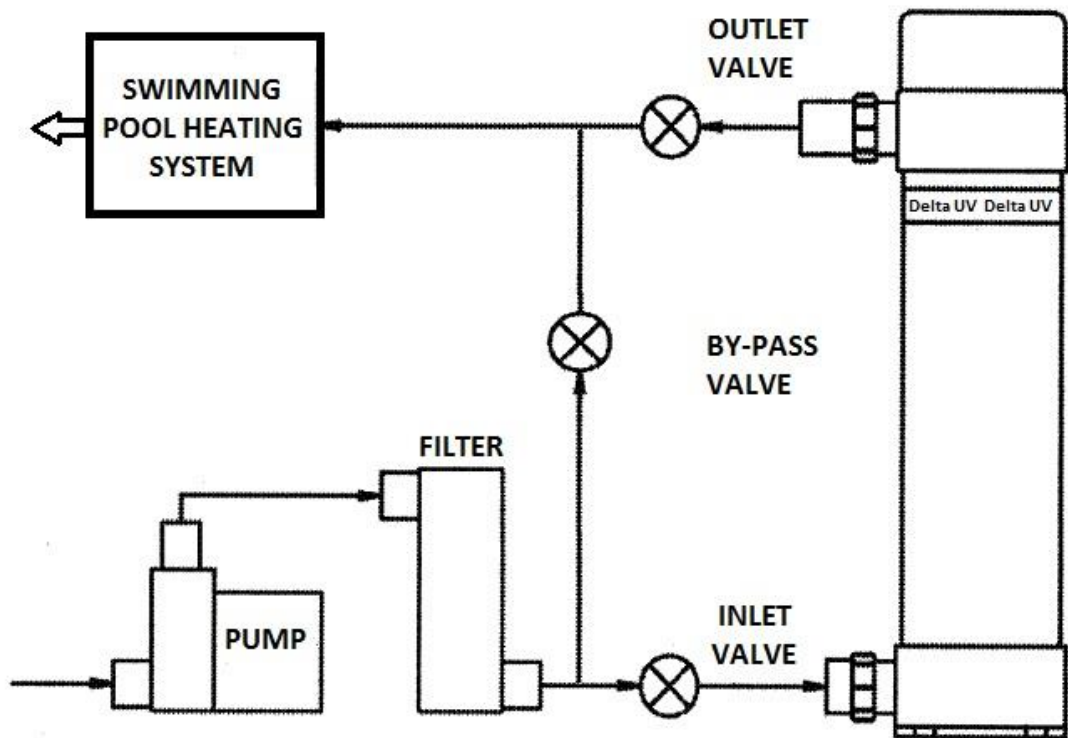

FIG. 1
**Plumbing the UV Unit:** Your DELTA UV unit will need to be plumbed into your pond or swimming pool circulation system. The diagram (Fig. 1) shows how the unit is to be plumbed. Note that the water is to be piped from the pressure side of the pump and after the filter, in and out of the DELTA UV unit. The inlet for the water is at the bottom of the DELTA UV unit, and the outlet is at the top of the DELTA UV unit. If your pump exceeds the maximum flow rate of the DELTA UV unit, installation of a plumbing by-pass will be necessary to bypass some of the pump's flow around the DELTA UV unit so the maximum flow rate of the DELTA UV unit will not be exceeded. **Bypass system is recommended in all installations.**